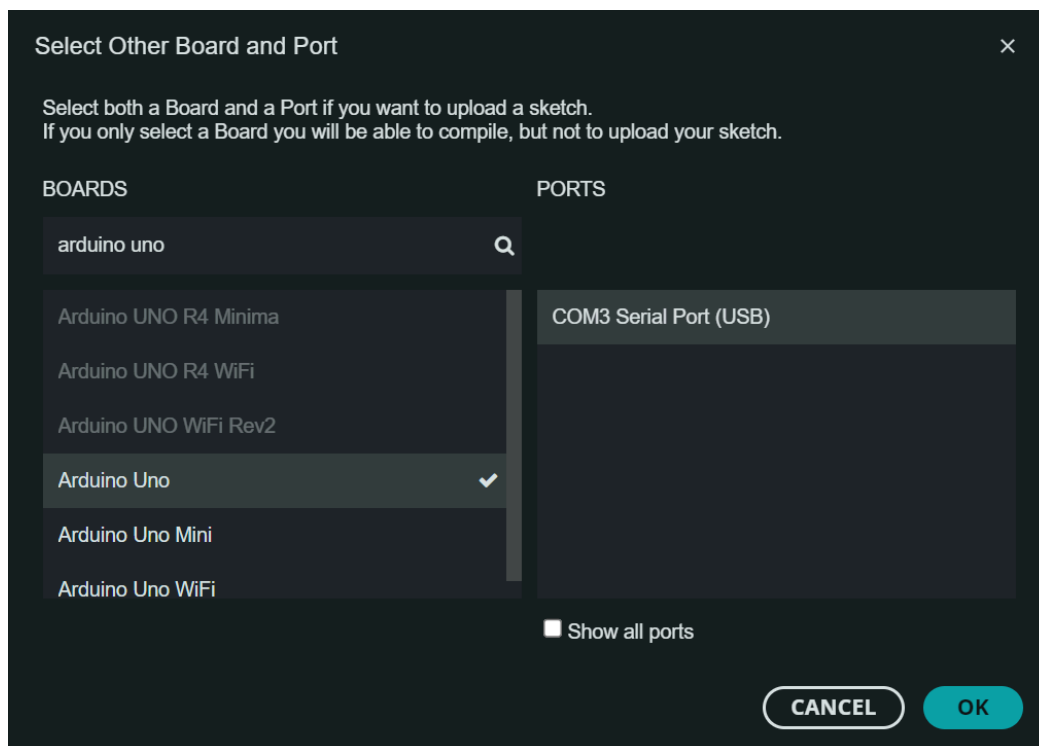

Figure 11: Arduino Other Board and Port Menu
9. Select the COM port that your Arduino is plugged into (Figure 11). **Note:** If the COM port is listed as PORT 1, plug the Arduino into another port and repeat this step.